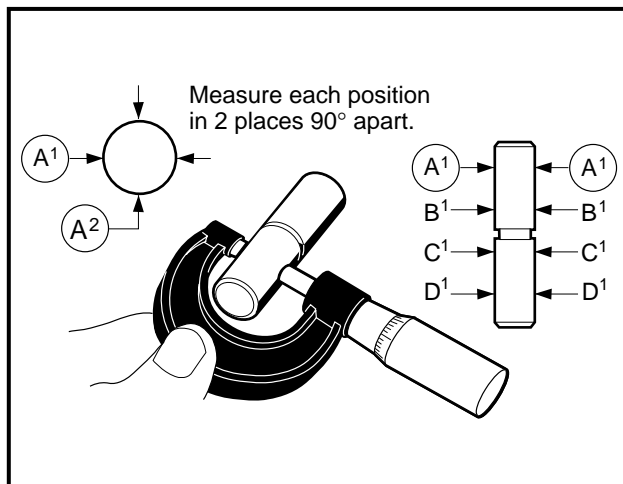

Figure 13-33 Measure O.D. of Rocker Shaft
2. Using a micrometer, measure the outside diameter of the rocker shaft at several points along its length (**Figure 13-33, Page 13-19**). If the outside diameter is less than the service limit of 0.4704 inch (11.949 mm), replace the shaft.